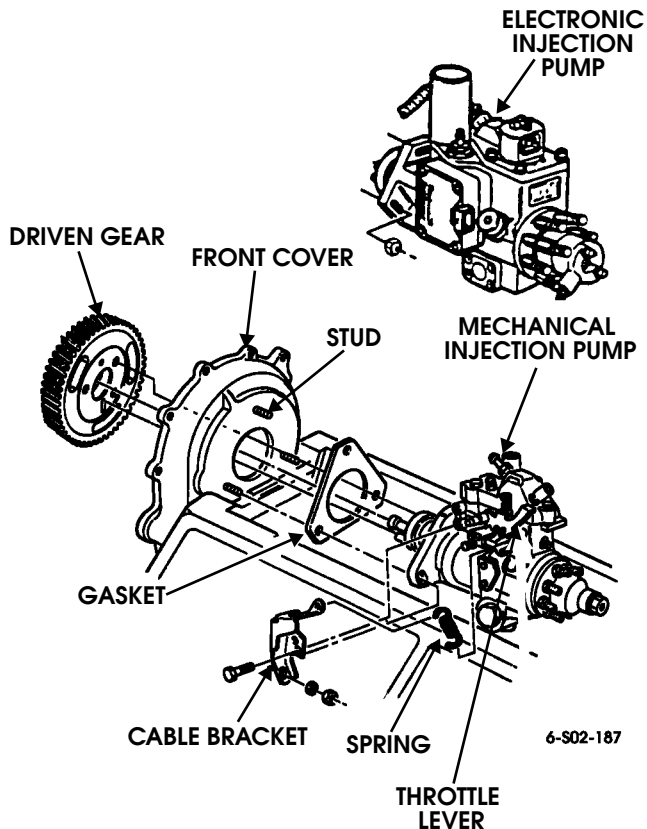

Figure 2-108: Fuel Injection Pump and Driven Gear Removal
1. Remove driven gear attaching bolts and remove gear from fuel injection pump (Figure 2-108).